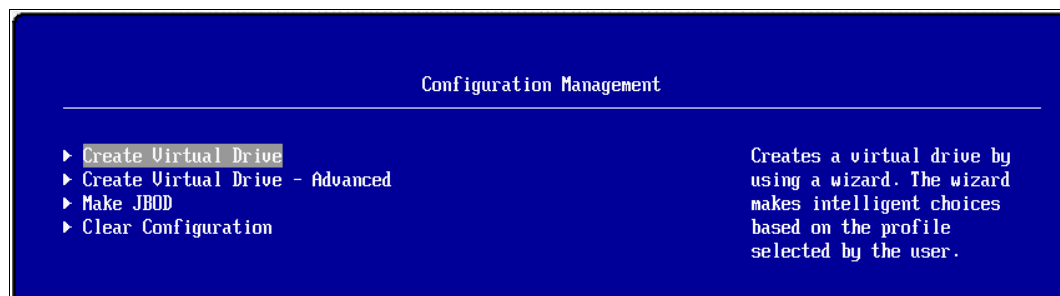

Figure 5-24 Configuration Management panel, Create Virtual Drive selected
9. Return again to the **Main Menu** shown in Figure 5-19 on page 90. Access the **Configuration Management** panel, and select **Create Virtual Drive** as shown in Figure 5-24.